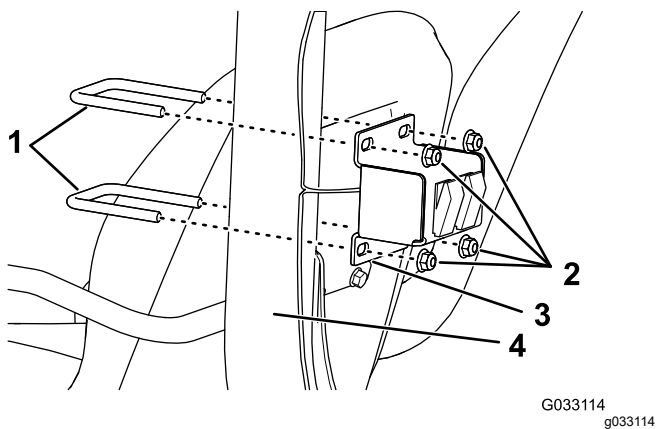

Figure 9
2. For the Multi Pro 5800 machine, install the switch bracket to the back side of the ROPS assembly using 2 U-bolts (3/8 x 2-15/16 x 3-1/2 inches) and 4 flange locknuts (3/8 inch) as shown in Figure 9.